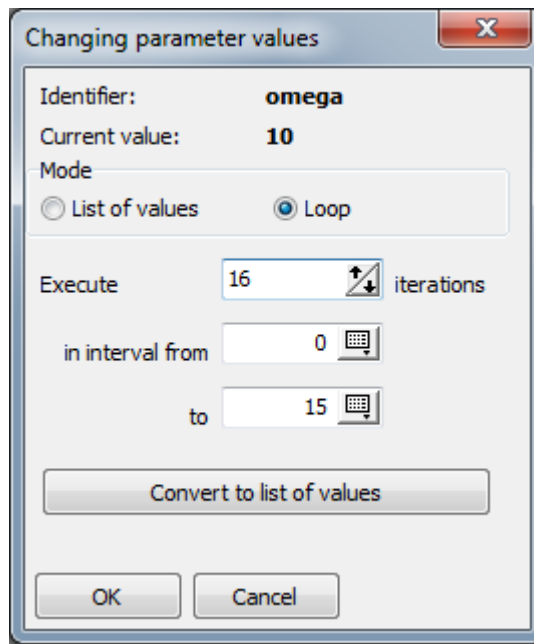

Figure 2.11. Frequency of the exciting force
6. Click on the **omega** parameter in the **List of parameters**. The **Changing parameter values** window appears, see Figure 2.11.
7. Set the **Mode** to **Loop**, set the rest parameters as it is shown in the Figure 2.11. Press **OK**. We just described 16 iterations, from 0 up to 15 rad/s.